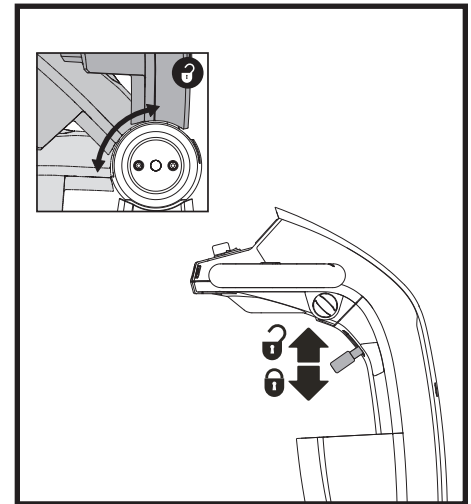

Figure 13. Tiller Adjustment Lever
## TILLER ANGLE ADJUSTMENT (see figure 13)
1. Lift the tiller adjustment lever. See figure 13.